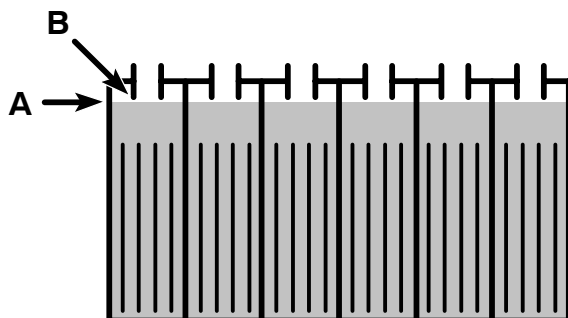

FIG. 24
7. After charging, check the electrolyte level (A) again. The level should be approximately 1 cm (3/8") from the bottom of the fill-port (B) (Figure 24). Add distilled water if needed. **DO NOT OVERFILL.**